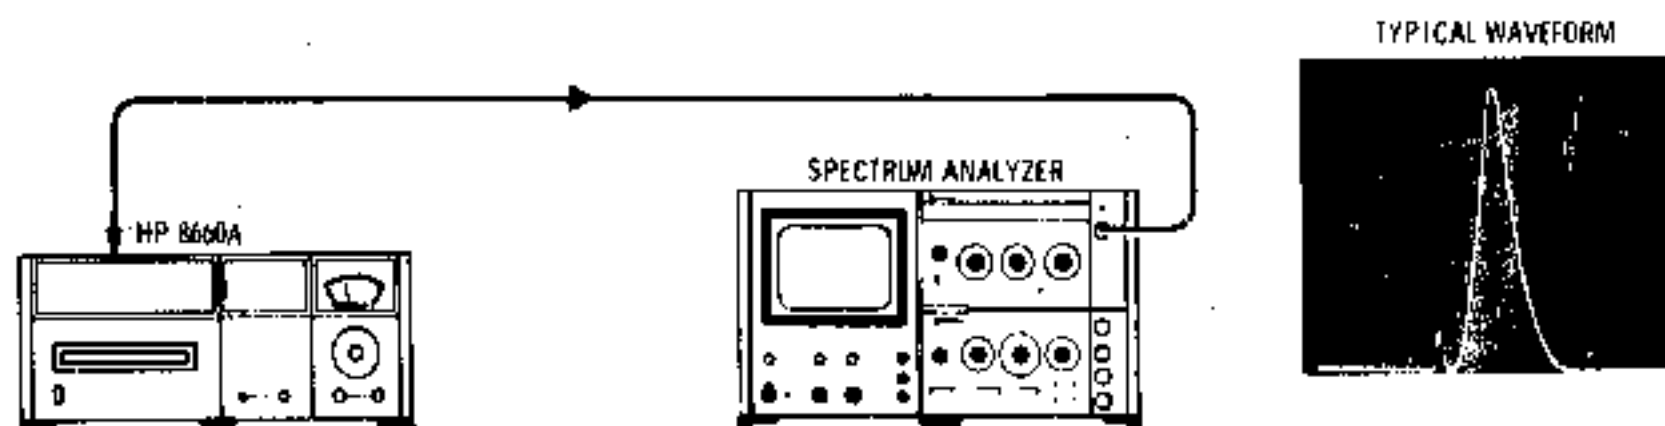

Figure 5-5. RF Level Checks Test Setup
- d. Connect the Spectrum Analyzer RF INPUT to the 100 MHz output of the A4A4 assembly and tune the Spectrum Analyzer CENTER FREQUENCY to 100 MHz. (See Figure 5-5.)